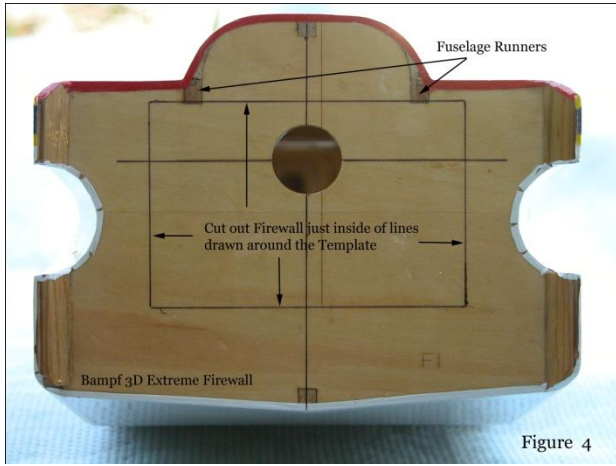

Figure 4
- a. Draw a line around the template to mark the firewall where to cut the firewall hole. Figure 4. The line should just "touch" the bottom of the upper fuselage runners.